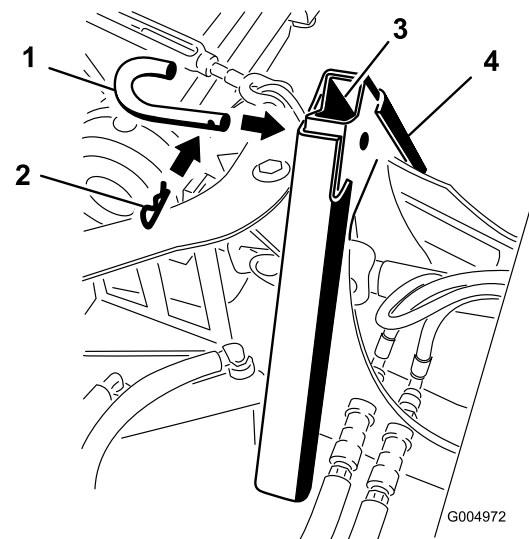

Figure 70
- Secure the adapters together with the attachment pin and hairpin cotter as shown in Figure 70.